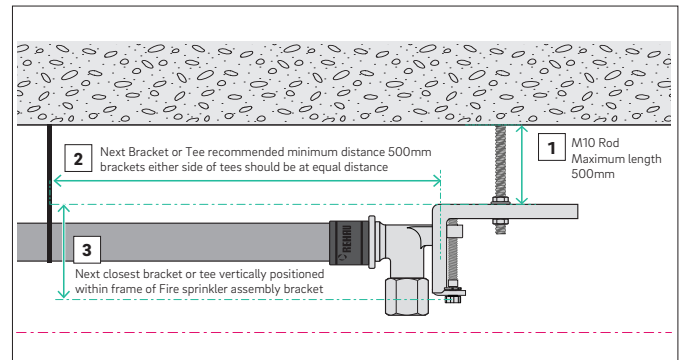

Fig 10-4 Fire sprinkler assembly bracketing and fixing requirements
- Install the last pipe bracket (or fitting if there is no bracket between the fire sprinkler assembly and the next fitting) immediately before the fire sprinkler assembly. This should be at a minimum horizontal distance of 500mm from the sprinkler location and at a vertical height within the frame of the fire sprinkler assembly bracket (See Fig 10-4). This allows for the full range of adjustment of the fittings to be utilised.
Fig 10-4 shows REHAU's requirements to ensure the full range of adjustment of the fire sprinkler assembly is able to be utilised and to reduce any stresses introduced on the joints. Above all else, the correct functioning of the fire sprinklers is paramount and must be ensured by the installer.